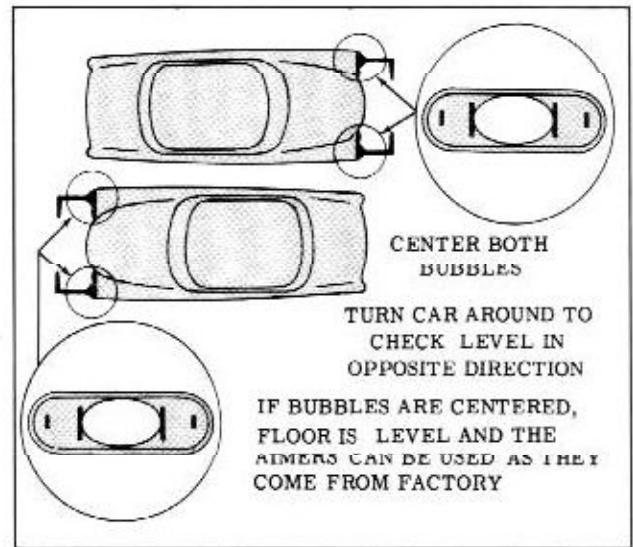

Fig. 13-88 Selecting an Aiming Area
4. After both bubbles are centered, turn the car around end for end, making sure the tires rest in the spots made on the floor before the car was moved. (Fig. 13-88)